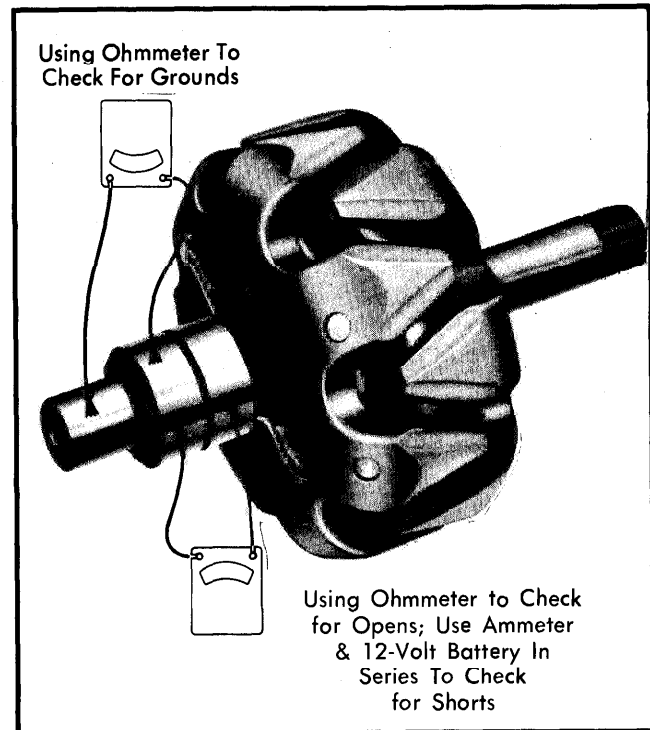

Fig. 11 Bench Testing Rotor for Opens, Shorts and Grounds
1) Check rotor for grounds or an open circuit, using either a 110 volt test lamp or an ohmmeter set at the x 1000 scale. See Fig. 11. To test for grounds, touch leads to rotor shaft and, in turn, to each slip ring. Reading should be very high (infinite). No continuity should exist with either slip ring (test lamp should not light). If lamp lights or if continuity is shown, check soldered connections at slip rings. Replace rotor, if connections are OK.
Fig. 11. Current draw should be 4.0-4.5 amps. Ohmmeter resistance should be 2.4-3.5 ohms (2.75-3.0 ohms for heavy-duty alternator). Excessive amperage draw or low resistance readings indicate shorted windings. Replace rotor. If rotor tests OK, but alternator output is low, continue with other tests.